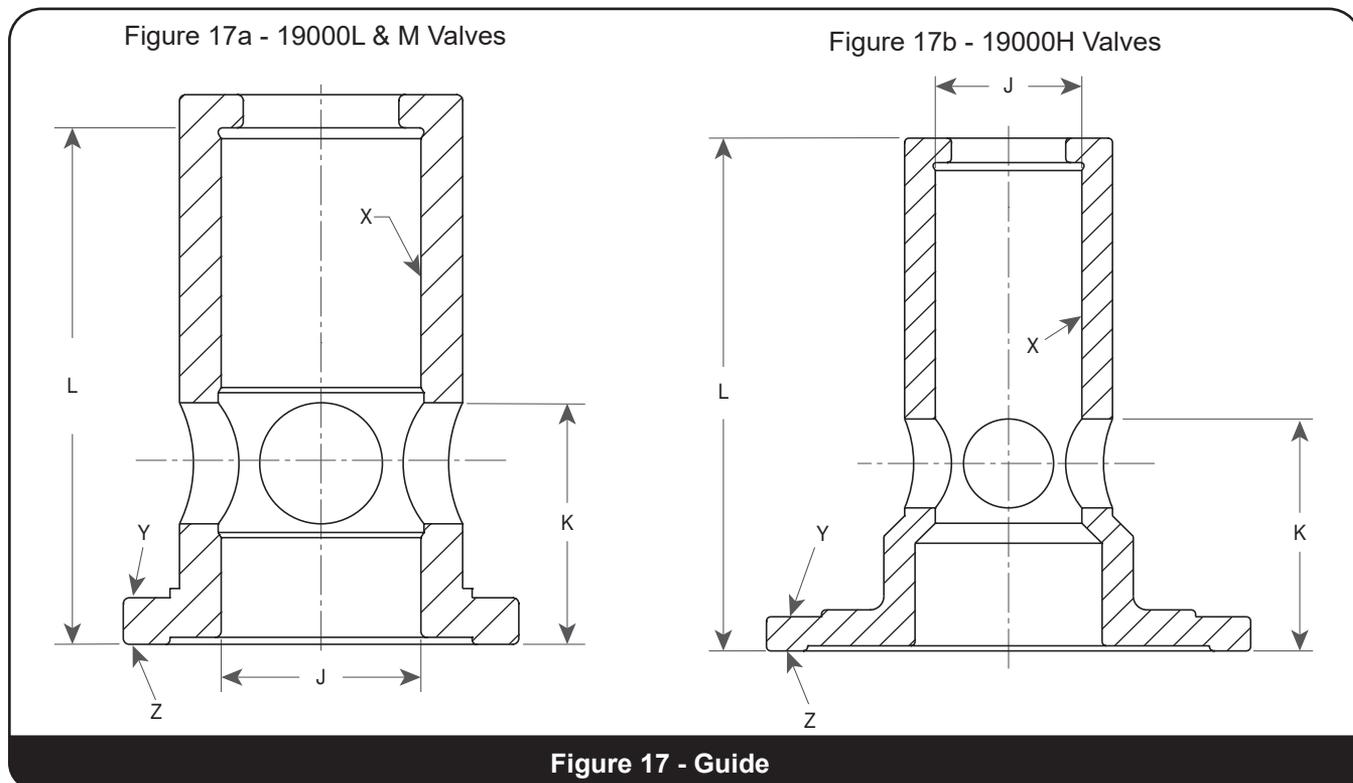

Figure 17 - Guide
3. Hole dimension "K" is out of tolerance (see Figure 17 on page 33, and Table 10 on page 34).
4. Guide Height Dimension "L" is out of tolerance (see Figure 17 on page 33, and Table 10 on page 34).
5. "J" dimension is not within tolerance (see Figure 17 on page 33, and Table 10 on page 34).
G. Spindle (9)